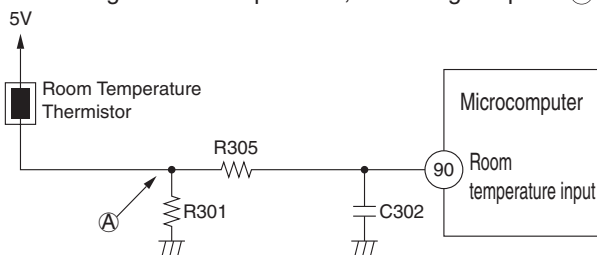

Fig. 8-1
A room temperature thermistor circuit is shown in Fig. 8-1.
- Fig.8-1 shows the dip switch circuit; the table shown in Fig.10-2 are function and setting position from ① –⑥ of the switch no.